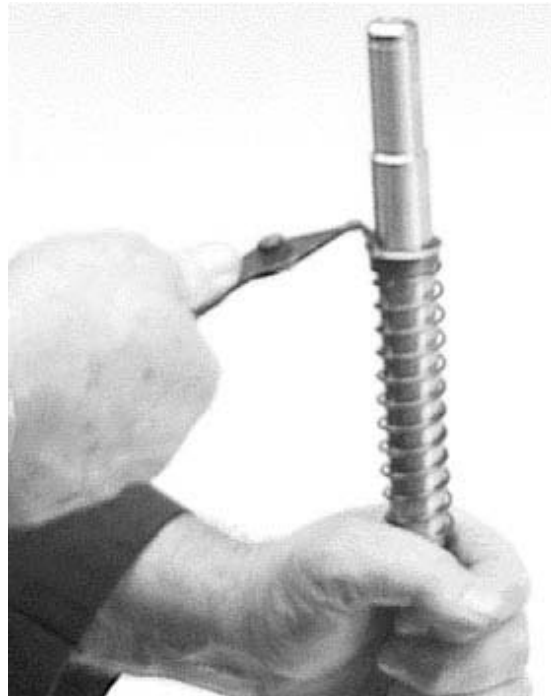

Figure 8-16. Remove Bias Spring Retaining Ring from Valve Stem.
9. Use retaining ring pliers to expand and remove Retaining Ring (7) from the Valve Stem (11) as shown in Figure 8-16.